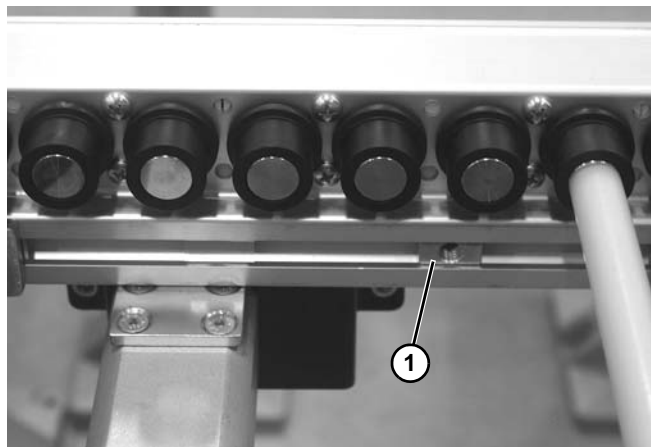

Figure 1
1. Install spring nut (**Figure 1, item 1**) into T-slot.